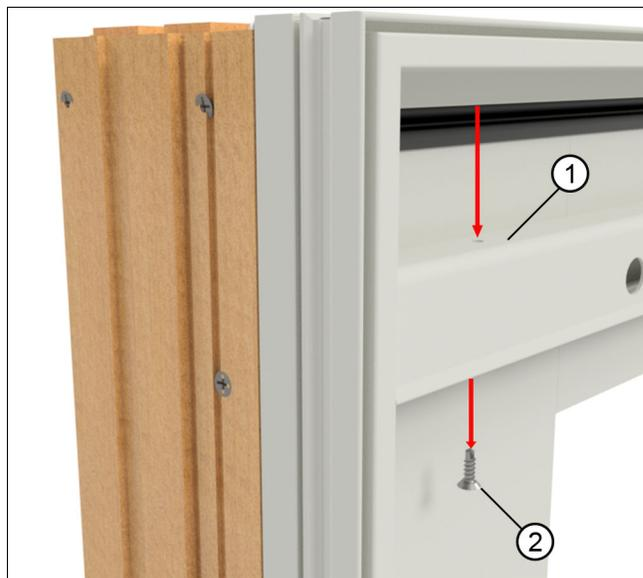
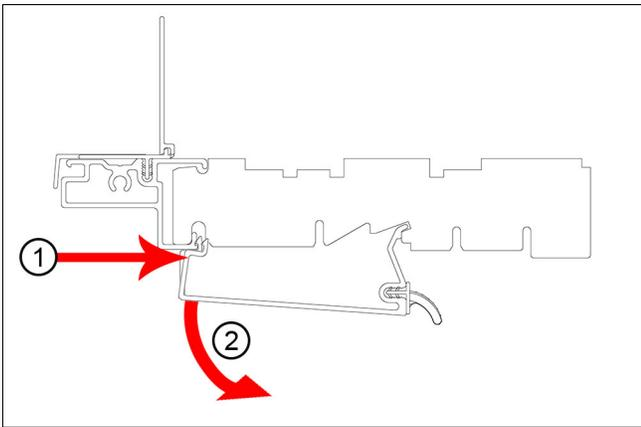
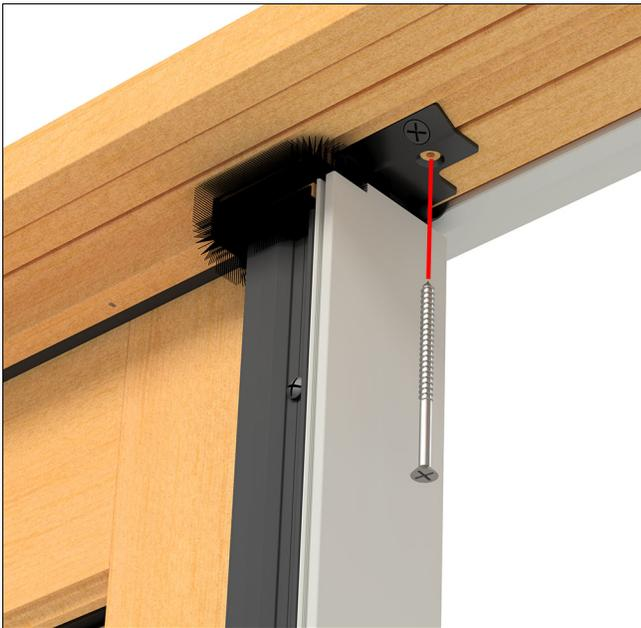

Figure 31 Remove the head jamb screen track
Figure 32
Figure 33
12. On 1 3/4" IZ units and 1 3/4" HP units: remove the head jamb screen track, backing out the #7 self tapping screws (set aside for re-installation later) See Figure 31. Remove the aluminum head jamb cover to reveal the exterior stationary panel head jamb bracket. See Figure 32. Using the hole in the bracket as a guide, pre-drill with a 1/8" bit through the frame and into the RO framing. Shim and drive a #10 x 3" flat head screw through the bracket and into the rough opening. See Figure 33.